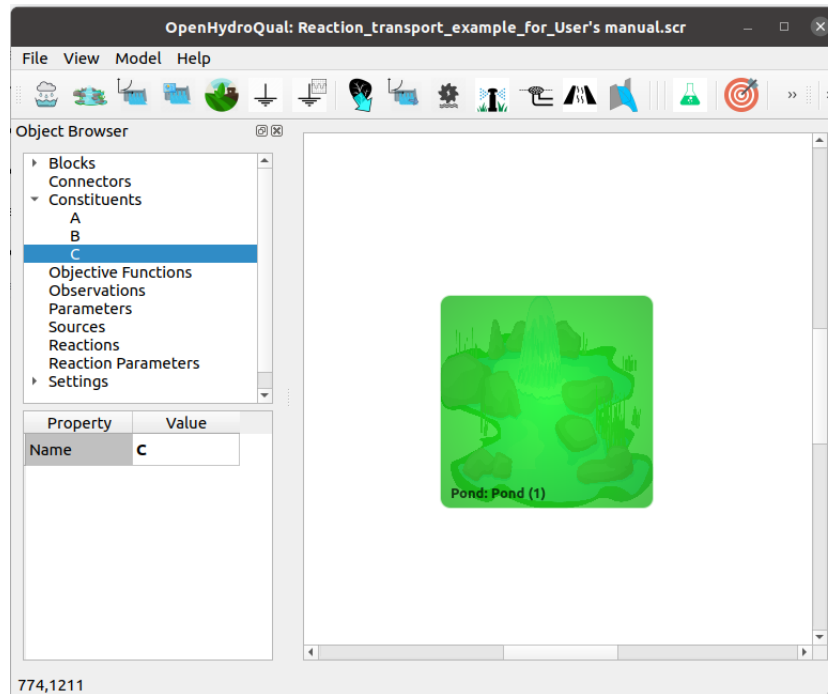

Figure 1: Screenshot of the GUI after adding the stormwater pond and the three chemical constituents
4. **Adding the three chemicals A, B, and C:** Click three times on the *Constituent* button  on the components toolbar at the top to add three constituents. From the *Object Browser* panel, choose each of the constituents and change their names respectively to **A**, **B**, and **C** through the *Properties* panel. Your GUI window should now look like figure 1.